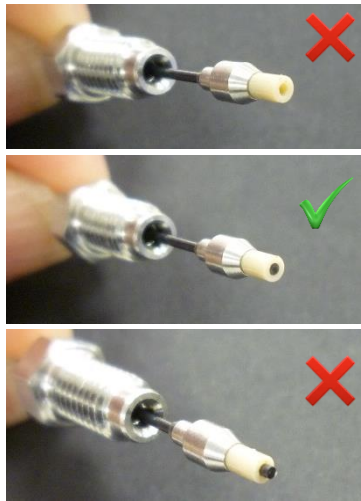

Figure 41. PEEK sleeve and PEEKSil tubing aligned correctly (middle), or incorrectly (top and bottom).
- Align the end of the sleeve to the end of the tubing (Figure 41).